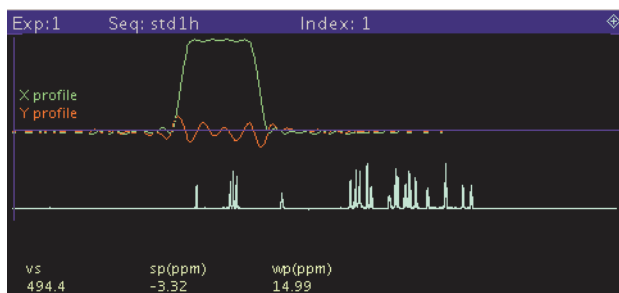

Figure 69. Shaped Pulse Simulations Reference Spectrum
13. Request simulations, see Figure 69, as follows: